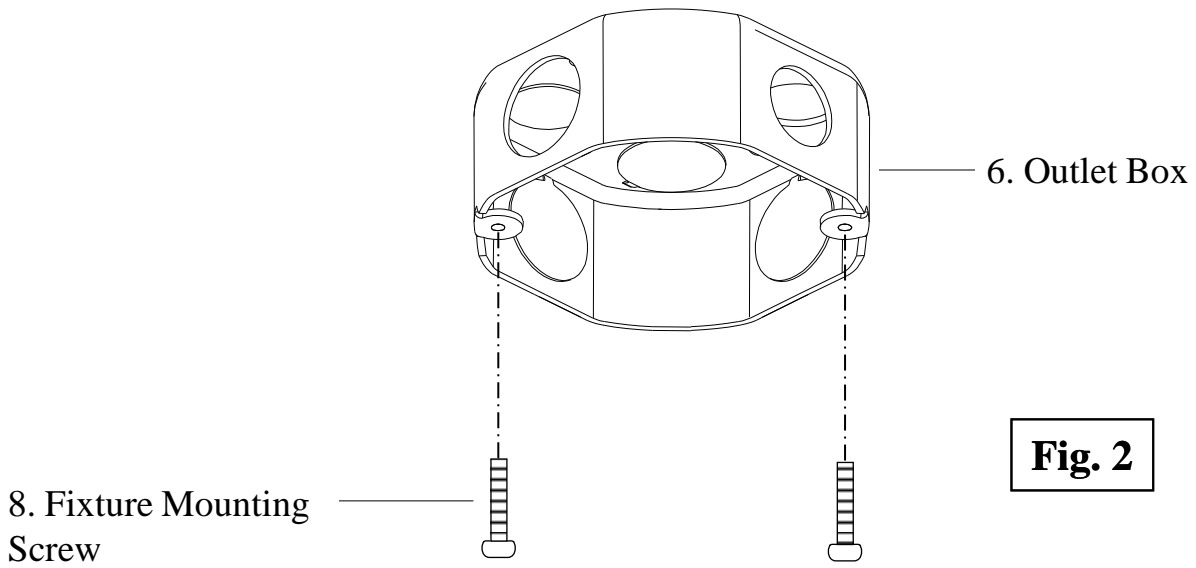

Fig. 2
1. Thread the Fixture Mounting Screws (#8) onto the Outlet Box (#6), as shown. **(Fig. 2)**